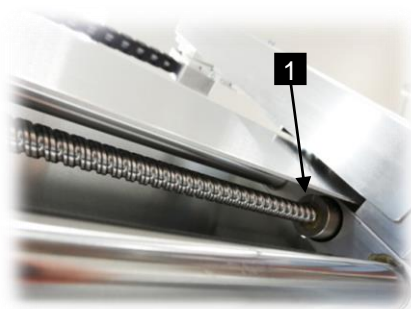

Figure 36: ball screw Y-axis
- 8 Put grease gun with a light bearing grease on to grease hole of the ball nut Y-axis (Fig. 36/1).